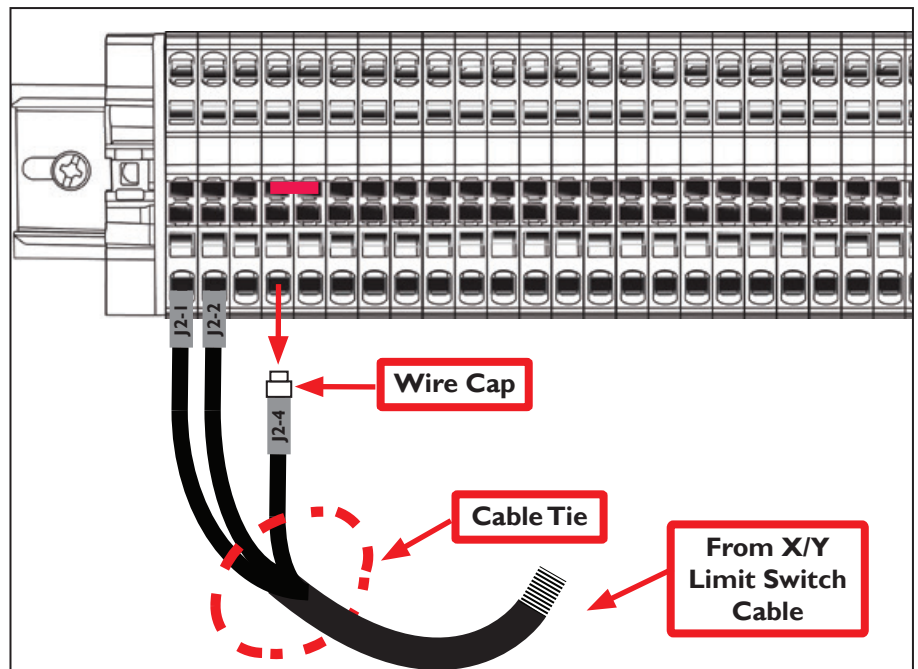

Figure 3
11. Put the provided Wire Cap on wire **J2-4** (see **Figure 3**).
12. Wire **J2-4** is no longer used. Use a cable tie (provided) to secure the wire to the limit switch cable (see **Figure 3**).